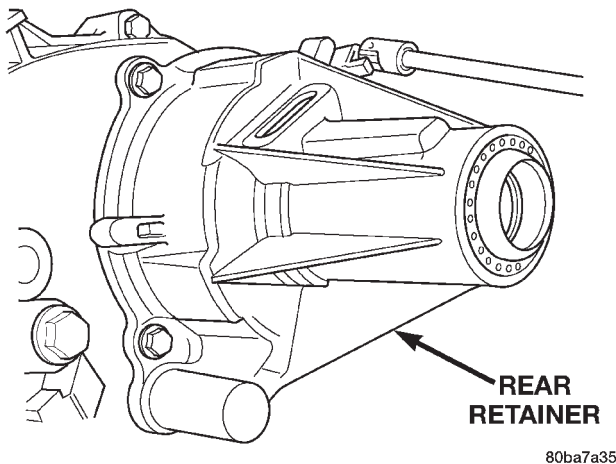

Fig. 14 Rear Retainer Bolt Removal
- (1) Remove rear retainer bolts (Fig. 14).